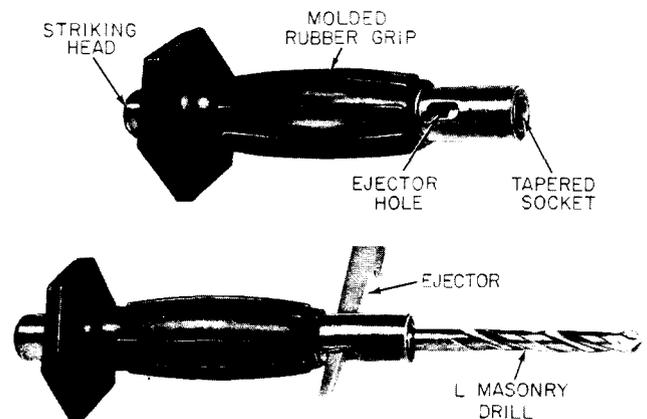

Fig. 1—L Drill Holder
3.02 The L Drill Holder consists of a length of round tool steel with a tapered socket in one end to accommodate the drill shank and a beveled striking head on the other end. A soft rubber grip is molded around the holder to facilitate holding and turning during the hand drilling operations. An elongated hole located in the socket end is for inserting the ejector to remove the drill from the socket (Fig. 1).